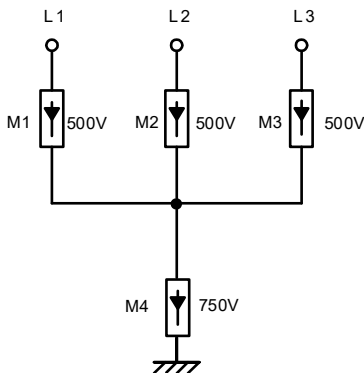

Fig. 6-3 The schematic diagram of AC SPD
- 3) The maximum continuous working voltage and action voltage of the low-voltage side lightning protection device of the grid-connected transformer must meet the requirements. The "3+1" method is recommended as shown in Fig. 6-3, where the maximum continuous working voltage of M1-M3 are 500V, M4 is more than 750V.